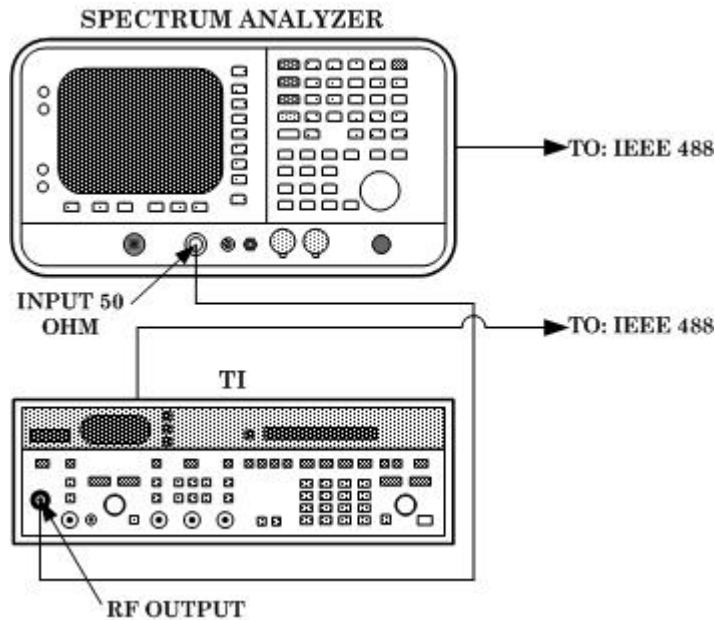

Figure 3. Sideband phase noise hookup.
(1) Connect equipment as shown in figure 3.